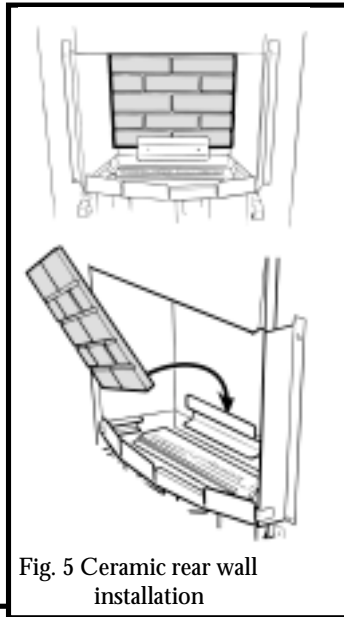

Fig. 5 Ceramic rear wall installation
1. With its feather edge at the top, place the ceramic rear wall into the channel at the back of the fire box. Push the wall flat against the rear of the fire box. (See figure 5).